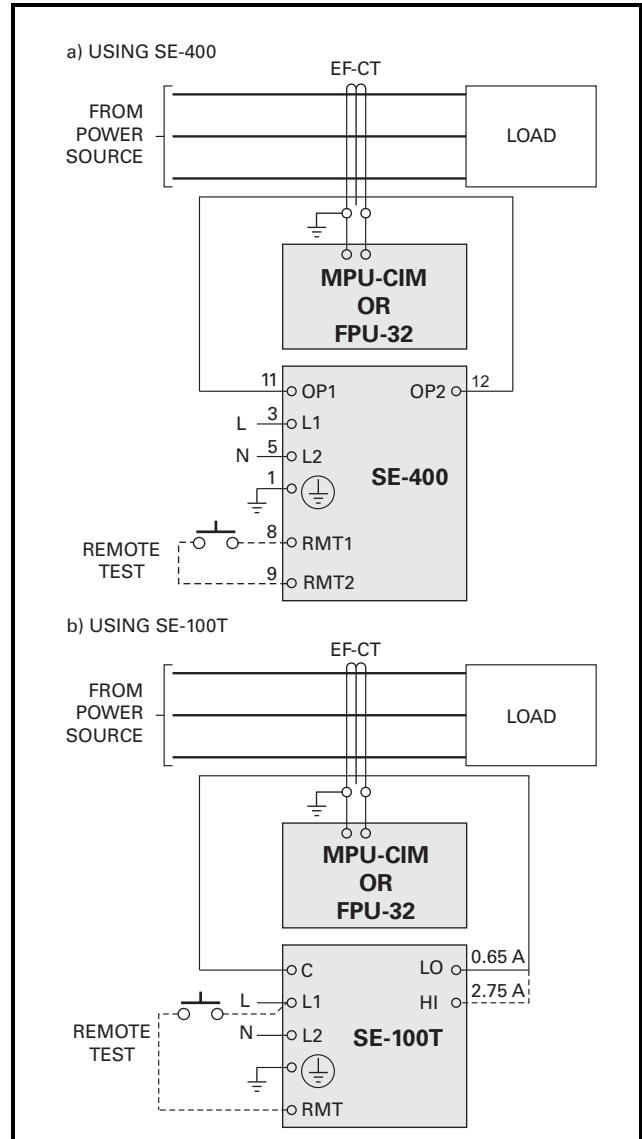

FIGURE F.1 Ground-Fault-Test Circuits.
- d) Verify proper reaction of the circuit-interrupting device in response to a simulated or controlled ground-fault current. To simulate ground-fault current, use CT-primary current injection. Fig. F.1(a) shows a test circuit using an SE-400 Ground-Fault-Relay Test Unit. The SE-400 has a programmable output of 0.5 to 9.9 A for a duration of 0.1 to 9.9 seconds. Set the test current to 15% greater than the FPU-32 trip setting. Fig. F.1(b) shows a test circuit using an SE-100T Ground-Fault-Relay Tester. The SE-100T provides a test current of 0.65 or 2.75 A for testing 0.5- and 2.0-A trip levels. Inject the test current through the current-transformer window for at least 2.5 seconds. Verify that the circuit under test has reacted properly. Correct any problems and re-test until the proper reaction is verified.